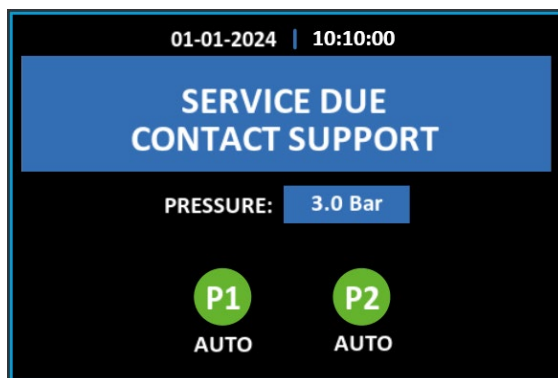

Fig 3.26: Service Due Alarm
- The Maxi-AP unit is configured to indicate when it requires servicing by displaying the 'SERVICE DUE CONTACT SUPPORT' alarm on the dynamic message window (see Fig 3.26). This alarm is activated every six months after the Maxi-AP has been commissioned.